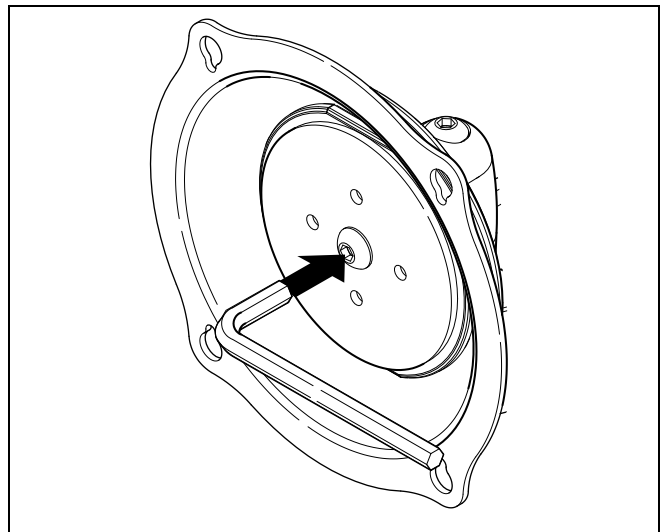

Figure 14
- Using a Phillips screwdriver turn the tension adjustment screw clockwise to increase tension, or counter-clockwise to decrease tension. (See Figure 14)